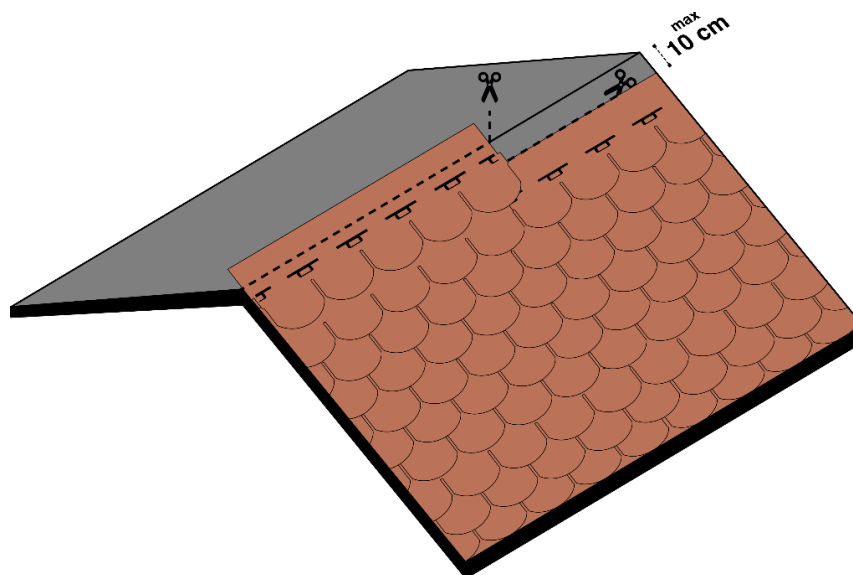

Fig. 18 - Shingles installation until the ridge
- Repeat the same steps for installation of the bituminous shingles in rows, until the entire pitch is covered, leaving the last 10 cm of bituminous membrane at the ridge exposed. If necessary, cut the top of the last row of shingles – Fig. 18